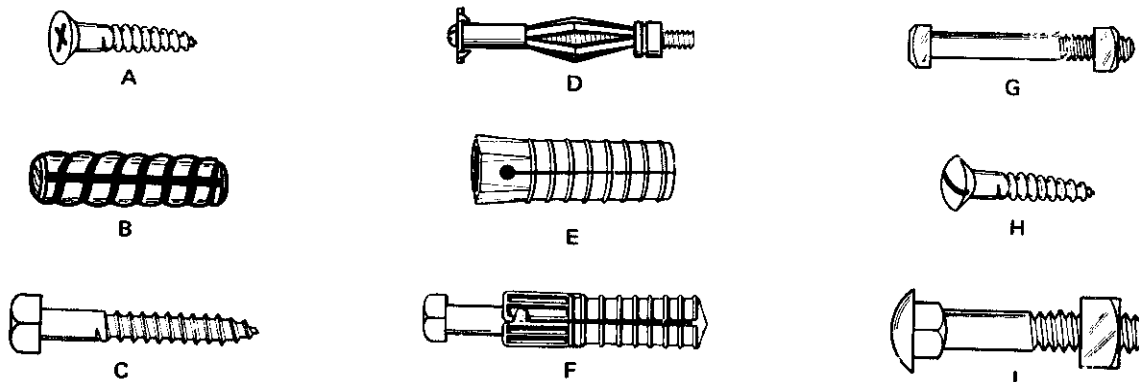

Fig. 12-45
1. Identify the types of fastening devices shown in figure 12-45.